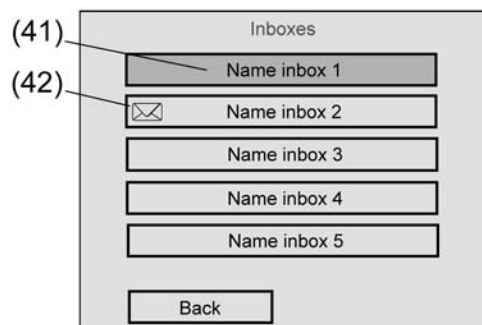

Figure 39: System page for mailboxes
The panel automatically transmits a "0" telegram about mailbox objects onto the bus, as soon as the panel operator opens a mailbox via the "Mailboxes" system page (Figure 39), and thus displays the contents.
The operator of the panel can display the contents of their mailboxes on the device display at any time and thus read the e-mail messages. To do this, they must open the "Mailboxes" system page (Figure 39). It is possible to jump to this page by opening the page using a function button.
- i** Newly arrived e-mails are not signalled on the screen for as long as the inbox display page is shown or Read mode is active. New messages are only visible on the screen with the "Letter icon" (Figure 39) when the inbox display page is exited. The newly arrived messages can be read the next time the display page is opened.